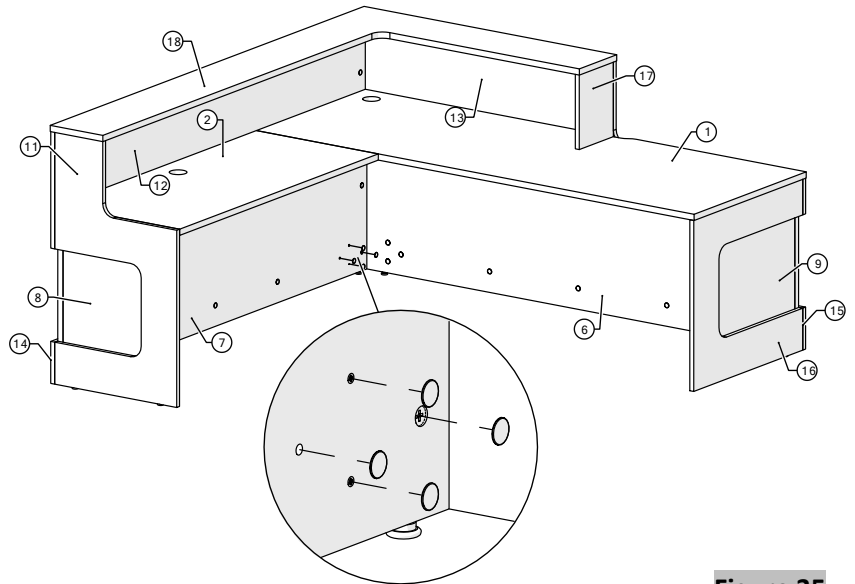

Figure 35
32. Stick the fastcaps onto all visible holes, screws and Cams (Figure 35).